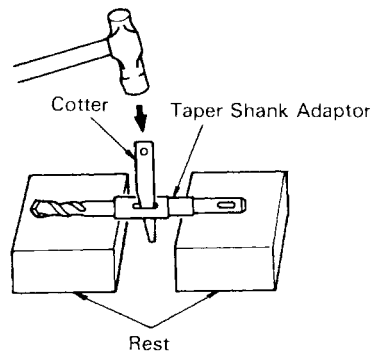

Fig. 12
- To remove the drill bit (taper shank), insert the cotter into the slot of the taper shank adaptor and strike the head of the cotter with a hammer supporting on the rest. (Fig. 12)